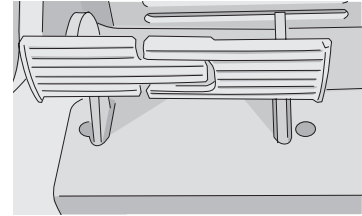

Figure 4-36
2. Brake pedal's axle (Figure 4-36) (5 places)